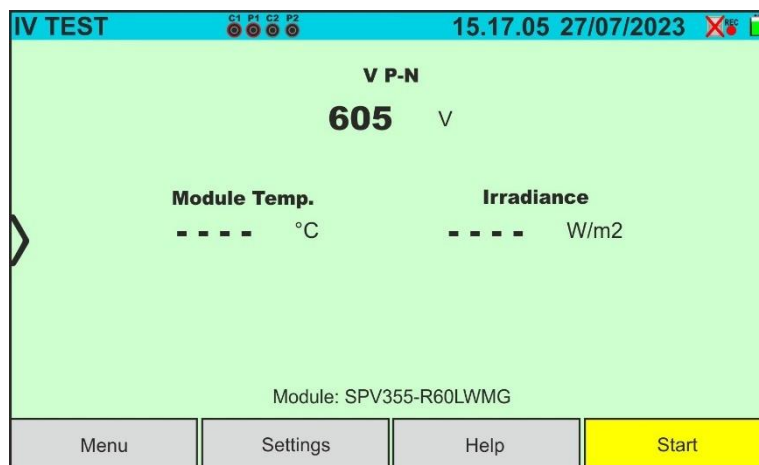

Fig. 51: I-V curve with SOLAR03 in synchronous recording on Monofacial modules
10. In the case of **Monofacial** modules, the Fig. 51 screen is shown on the display. The following parameters are indicated: